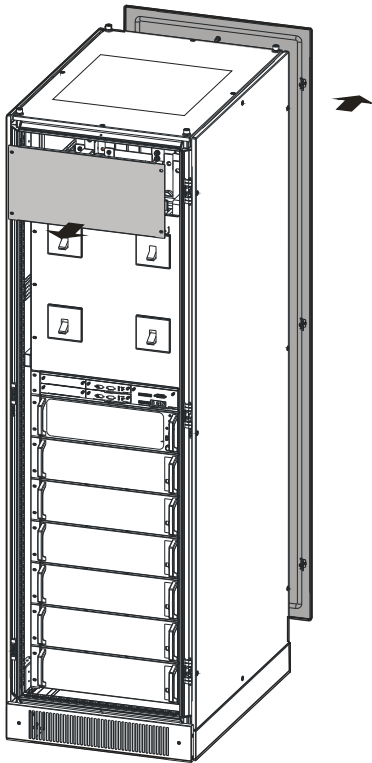

Figure3-20 Remove the sealing plate schematic diagram
Step 1 Open the front door and rear door of the cabinet, as shown in Figure3-20.